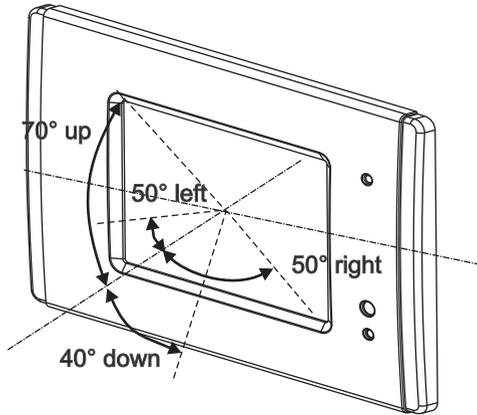

Figure 3. Wall Mounted touchscreen unit's viewing angles
- The screen has a typical viewing angle of 50° to the left and right, 70° up and 40° down. Take this into account when choosing the mounting height. The desktop touchscreen has a tilting front. Refer to Figures 3 and 4.